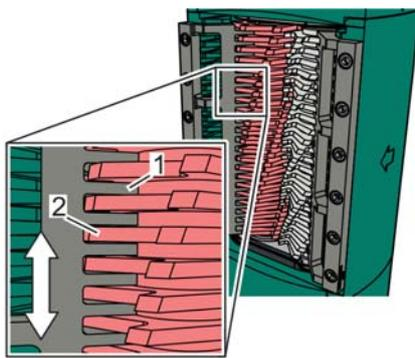

Fig. 68: Aligning the cleaning comb, example
6. ➤ Align the pins of the cleaning comb (Fig. 68/1) vertically (Fig. 68/ double arrow) between the blades (Fig. 68/2) of the cutter blocks so that the cutter blocks can rotate without touching.